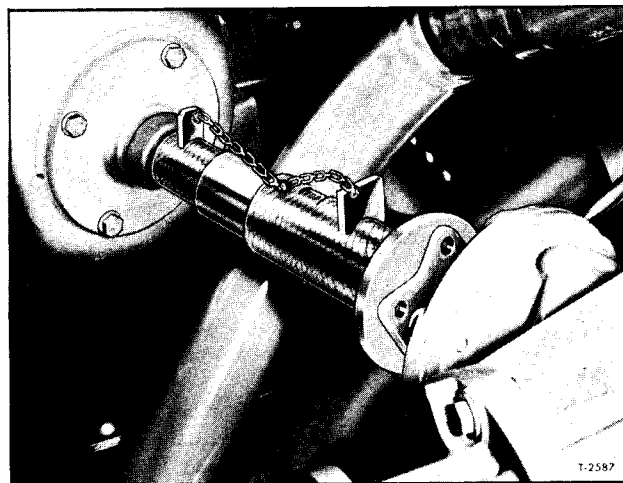

Figure 26—Compressor Alignment Tool Installed
4. **IMPORTANT:** Mounting holes in compressor support plates are oversized so compressor can be aligned when installing in coach. An alignment tool (fig. 26) must be used to align compressor properly. Tool can be fabricated locally from